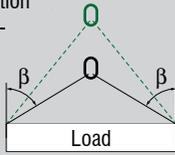

Fig. 9
- In the case of multi-leg attachment devices, the larger angle of inclination β (Fig. 9) determines the mode factor.